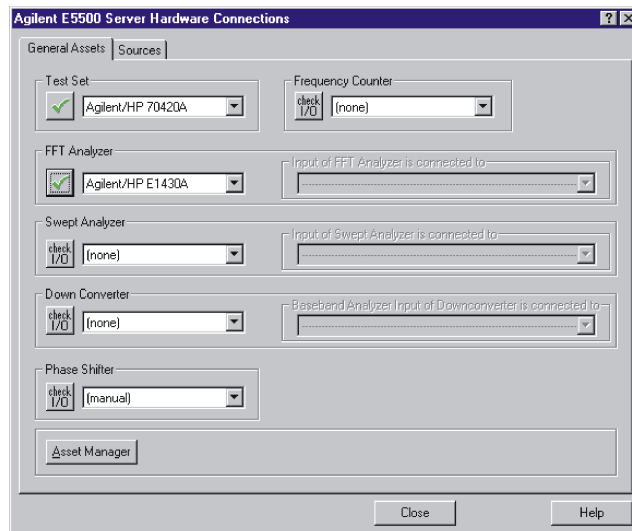

Figure 1-35 Select Test Set and FFT Analyzer
- 2 In the **Server Hardware Connections** dialog (Figure 1-35):